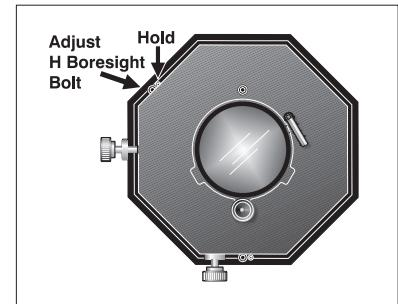

Figure 2.38 Adjust L/R Boresight
3. Adjust the horizontal boresight bolt (Figure 2.38) as necessary to direct or “aim” the lens toward the side of the image which focused too close to the lens. When both sides appear equally blurry, re-focus on the left side of the screen.